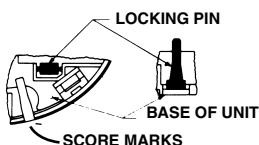

FIGURE 7
To make the smoke alarm somewhat tamper resistant, a locking pin has been provided in the base of the unit. It will help deter a child or other individual from removing the smoke alarm from the bracket. See Figure 7. This can be installed using the following directions.
1. Remove the break-away locking pin from the base of the unit by rocking the pin back and forth (see Figure 7).
2. Create opening with long-nose pliers between score marks on base of unit near where the locking pin was removed (see Figure 7).